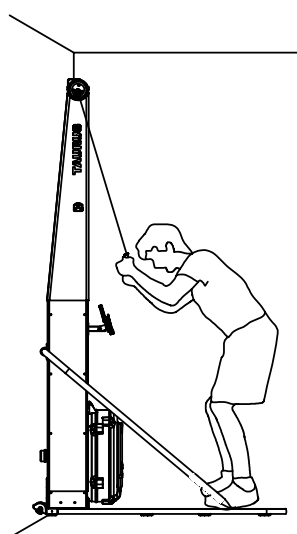

Fig. 22
4. Tighten your abdominal muscles and bend your knees. (Fig. 22).